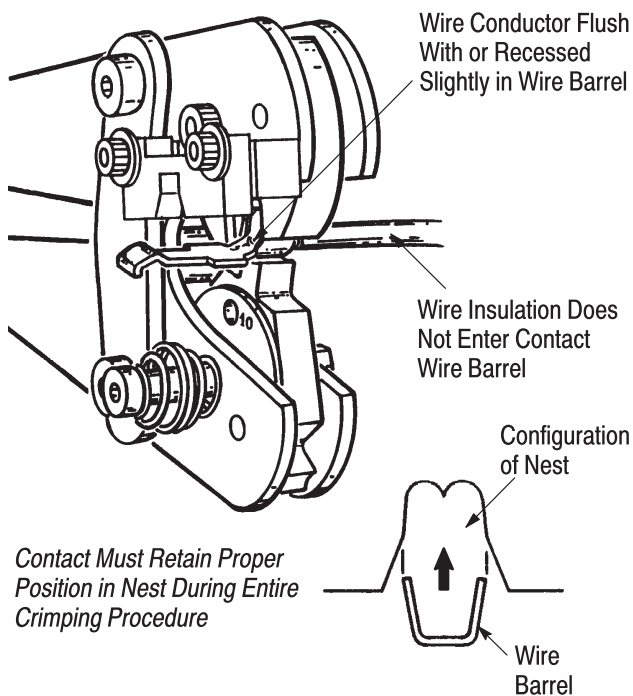

Figure 3
2. Place a sample contact in the nest of the stationary die as shown in Figure 3. The open end of the wire barrel must be aligned in the nest.
3. Loosen the two screws securing the hold-down device and contact locator, and position the contact locator over the contact tongue as shown in Figure 3. Do not re-tighten the screws at this time.
4. Slowly close the tool head, making sure the contact remains properly positioned in the nest. If the contact is cocked or otherwise out of line, re-align it before proceeding. The contact should remain in the nest as shown in Figure 3. DO NOT deform the wire barrel.